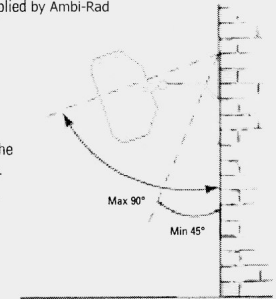

Fig.1
- The heater must be mounted so that the angle of elevation does not exceed 90°. The element must not face upwards and not more than 45° downwards (see Fig. 1).